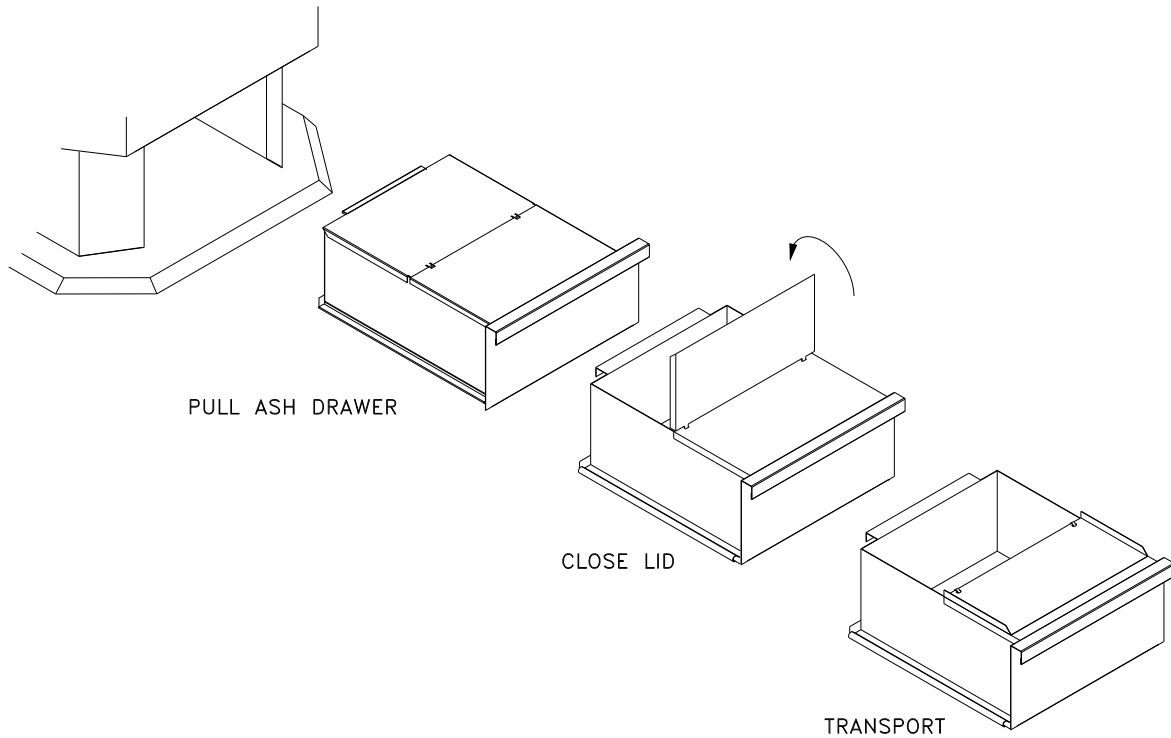

Figure 4 : Ash removal
5. Cover the plug with the remaining ashes and continue operation of your stove as usual. The Ash Drawer is shown in Figure 4 and can be removed by pulling it out toward you. Lift the Ash Drawer slightly or the pedestal base may get scratched. Close the rear half of the Ash Drawer lid to prevent spillage. Ashes should be placed in a metal container with a tightly fitting lid. This closed container should be placed on a non-combustible floor or on the ground, well away from all combustible materials, pending final disposal. Ensure the rear half of the lid is open before replacing the Ash Drawer.